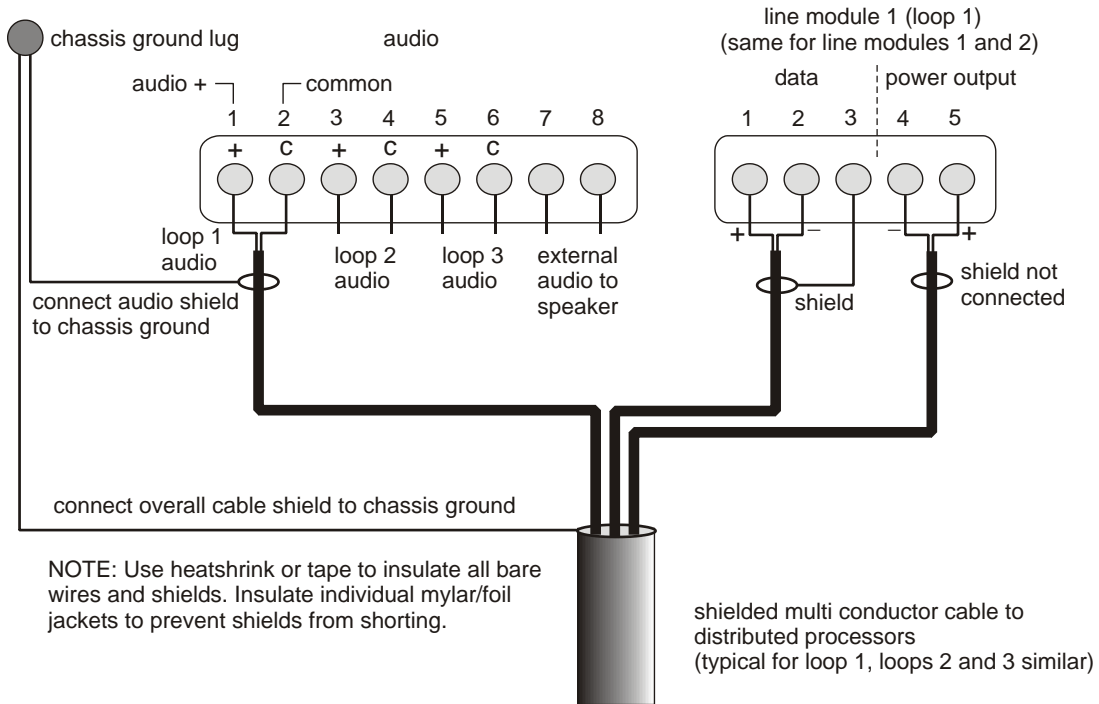
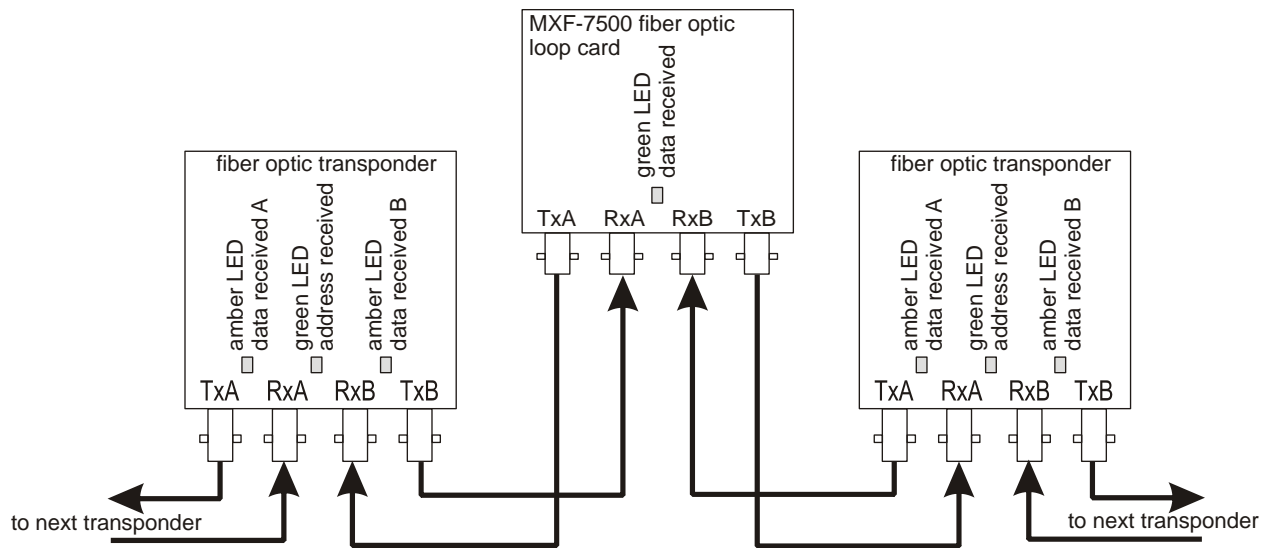

Figure 22 MX-7000 copper wire loop connections
Figure 23 Fiber loop connections
All field connections to the MX-7000 are made via the plug-in connectors on the rear panel (see Figures 22 and 23).
Refer to Figure 22 for FPS 2-2 copper wire loop connections and Figure 23 for FPS-5 fiber optic loop connections.
- FPS 5: Using approved Fiber Optic cable, connect the fiber loop ST connectors to the MXF-7500 multiplex fiber loop card. Typically, Tx A and Rx A on the loop card connect to Rx B and Tx B respectively on the first processor on the loop. Then, Tx B and Rx B on the loop card connect to Rx A and Tx A at the last processor on the loop (see Figure 23).